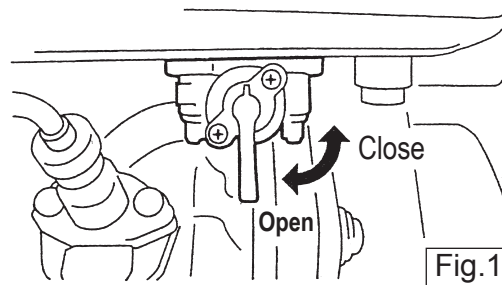

Fig.18
- 1 Open the fuel cock lever. (Fig 18)